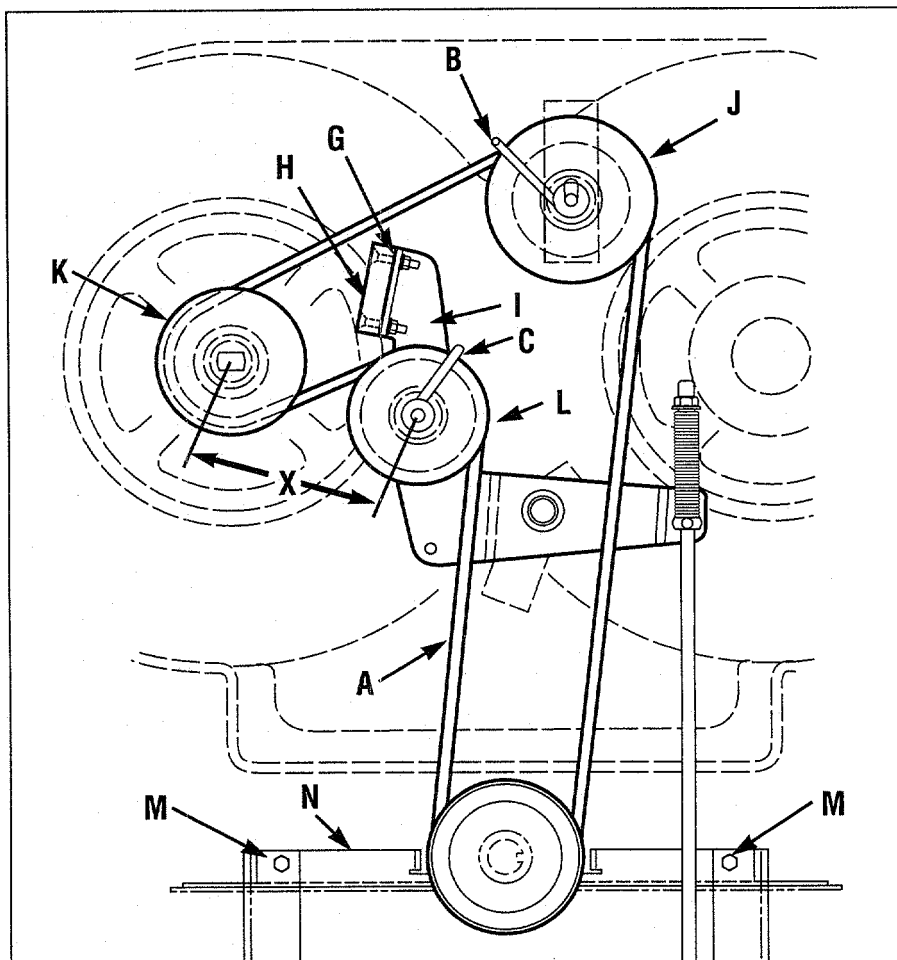

Figure 5-8: Blade drive.
4. Loosen belt guides (B and C, Figure 5-8).
5. Remove flap bracket (N, Figure 5-8) by removing two screws (M).
6. Remove belt (A, Figure 5-8) from around sheaves.
1. Route belt (A, Figure 5-8) around sheaves as shown.
3. Remove hardware (G, Figure 5-8) securing blade brake (H).
4. Remove old brake (H) from idler arm (I).
8. Engage the blade drive and measure the distance (X, Figure 5-8) between the centers of pulleys (K) and (L). The distance should be 5-1/2 to 5-5/8". After obtaining the correct dimension, reinstall the belt cover securely and test the operation of the blade brake.